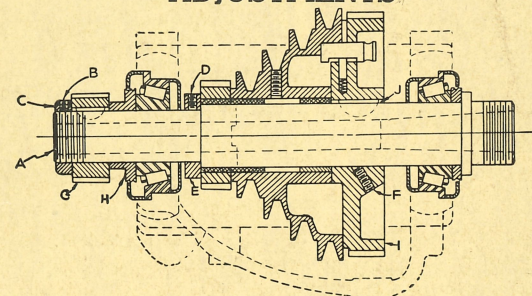

Fig. 2
1. ADJUSTMENTS OF TIMKEN BEARINGS. See Figure 2.